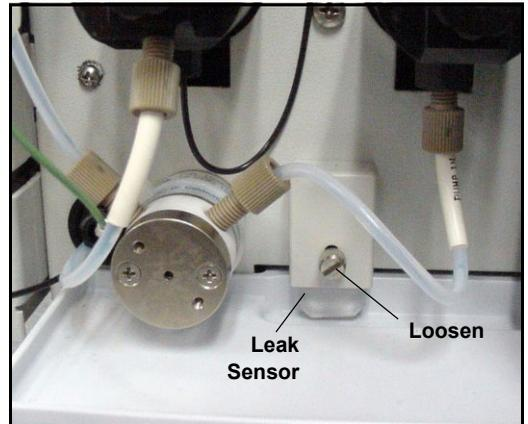

Figure 5-26. Leak Sensor
3. Loosen the screw on the front of the leak sensor (see Figure 5-26). **Note:** The screw remains attached to the sensor.